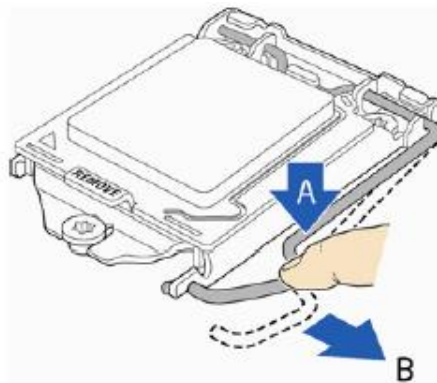

Figure 13: Unlatch the socket lever
1. Unlatch the processor socket lever by pushing it down and away from the socket. (Figure 13, A, B)